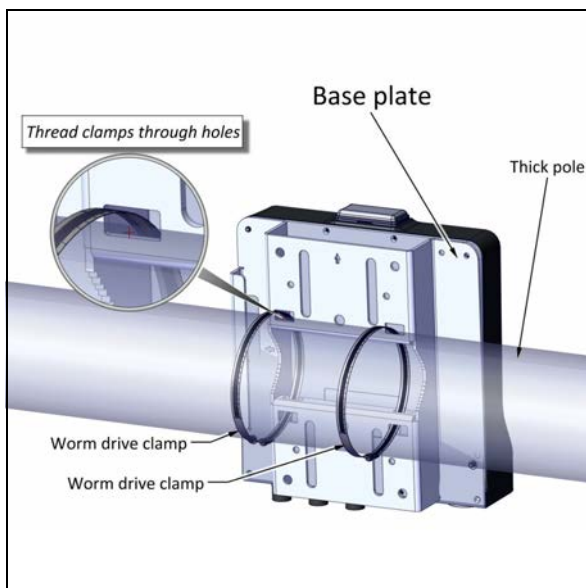
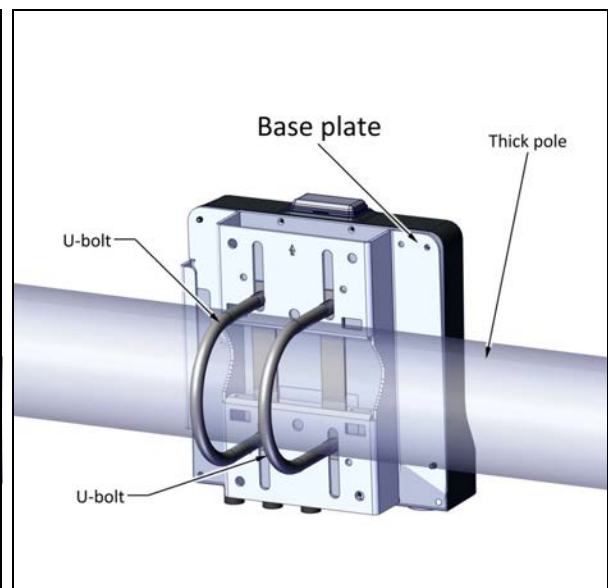

Figure 2-26: Using metal bands for a large pole
Figure 2-27: Using U-bolts for a large pole
- Diameter larger than 3: Use metal bands (not supplied), threaded through the holes as shown in Figure 2-26, or U-bolts (not supplied), fastened using the holes as shown in Figure 2-27: